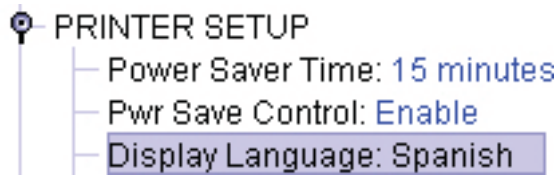

Figure 57 Toggling Through The Available Options
4. Double-click an item to open the Menu Editor (page 67) for that item, or use the < and > keys to toggle through the available options. See Figure 57. (You may change these keys in the printer database window: select **File ► Preferences**, then click the **Configuration Editor** tab. See page 26).